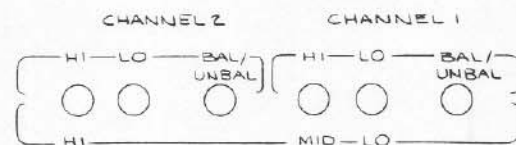

FIG. 2
1. Refer to figures 2,3 and 4 for wiring connections.